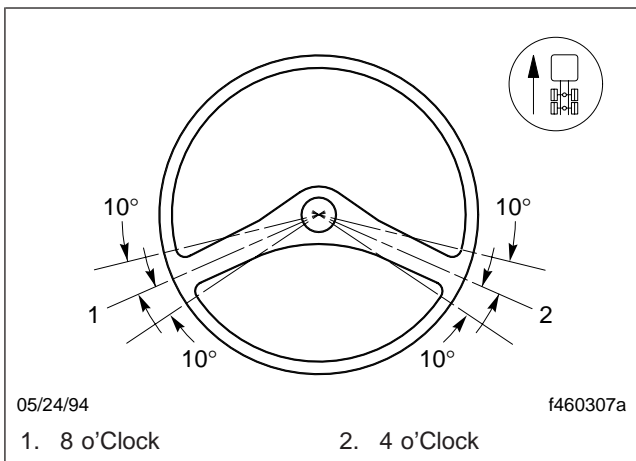

Fig. 2, Center the Steering Wheel
1. Place the steering wheel on the steering column so that the steering wheel spokes are positioned at 4 o'clock and 8 o'clock, or within 10 degrees of either side. See Fig. 2.